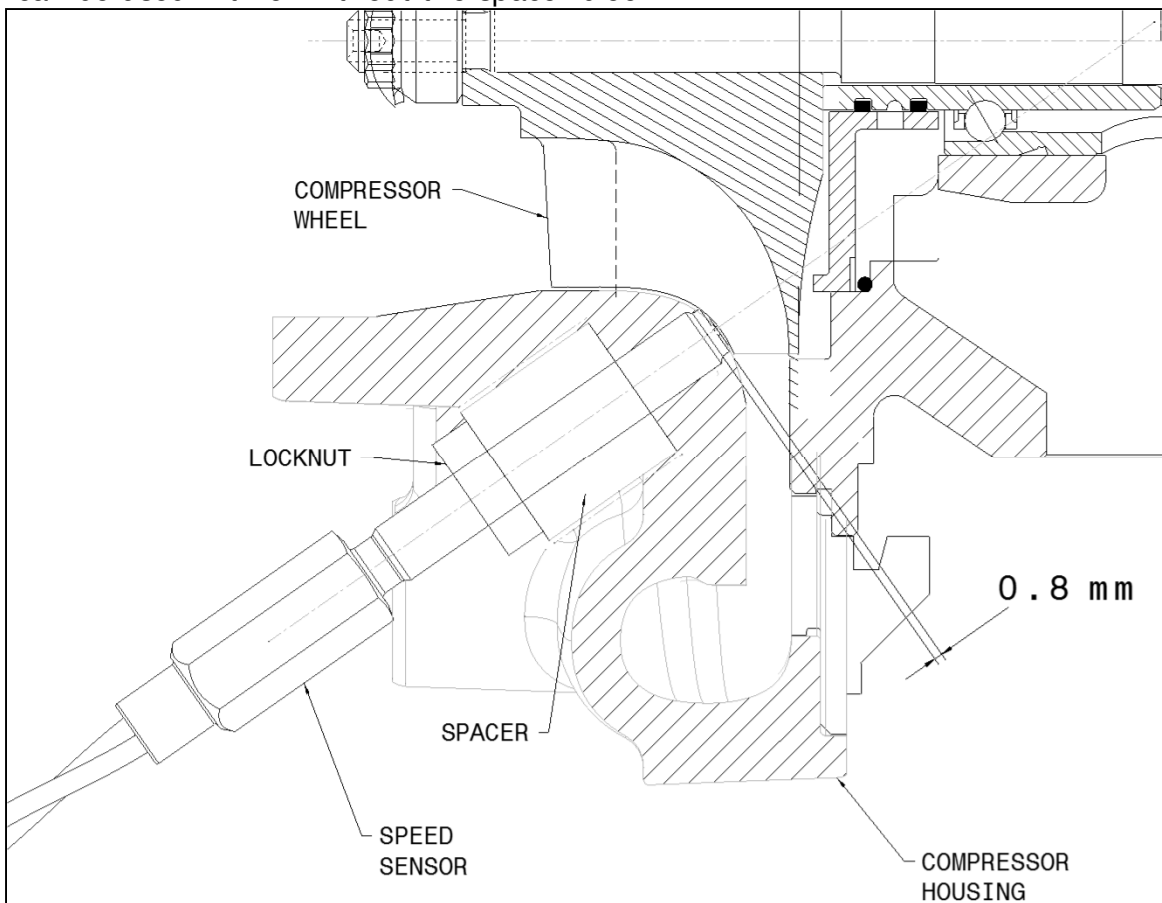

Fig. 10
**NOTE:** If the Garrett Turbo Speed Sensor Kit is being used with an older Garrett (T-Series) turbo, or with a non-Garrett unit, refer to figure 10 below for general placement of the sensor. It should always be installed at 0.8mm clearance from the wheel. The sensor hole should be drilled at an angle, placing the sensor near the base of the wheel below the level of the splitter blades, in order to accurately measure the speed. On custom applications the sensor can be used with or without the spacer block.